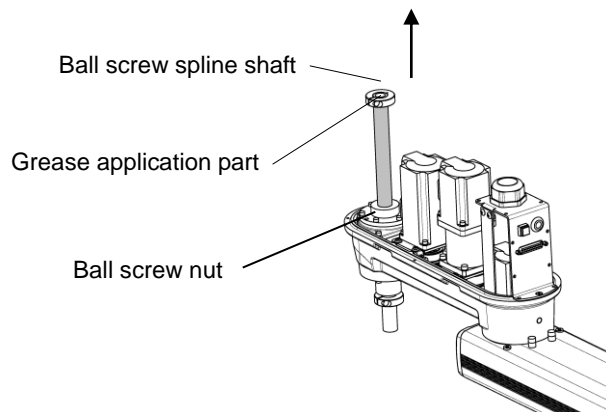

Fig. 6.4 Greasing up the ball screw spline unit (upper side)
- 8) Move the shaft up and down several times while holding down the Axis 3 brake release switch and fill the grease uniformly. Wipe out the surplus grease. This completes the grease-up work. As for the area to wipe out, see Fig. 6.4.